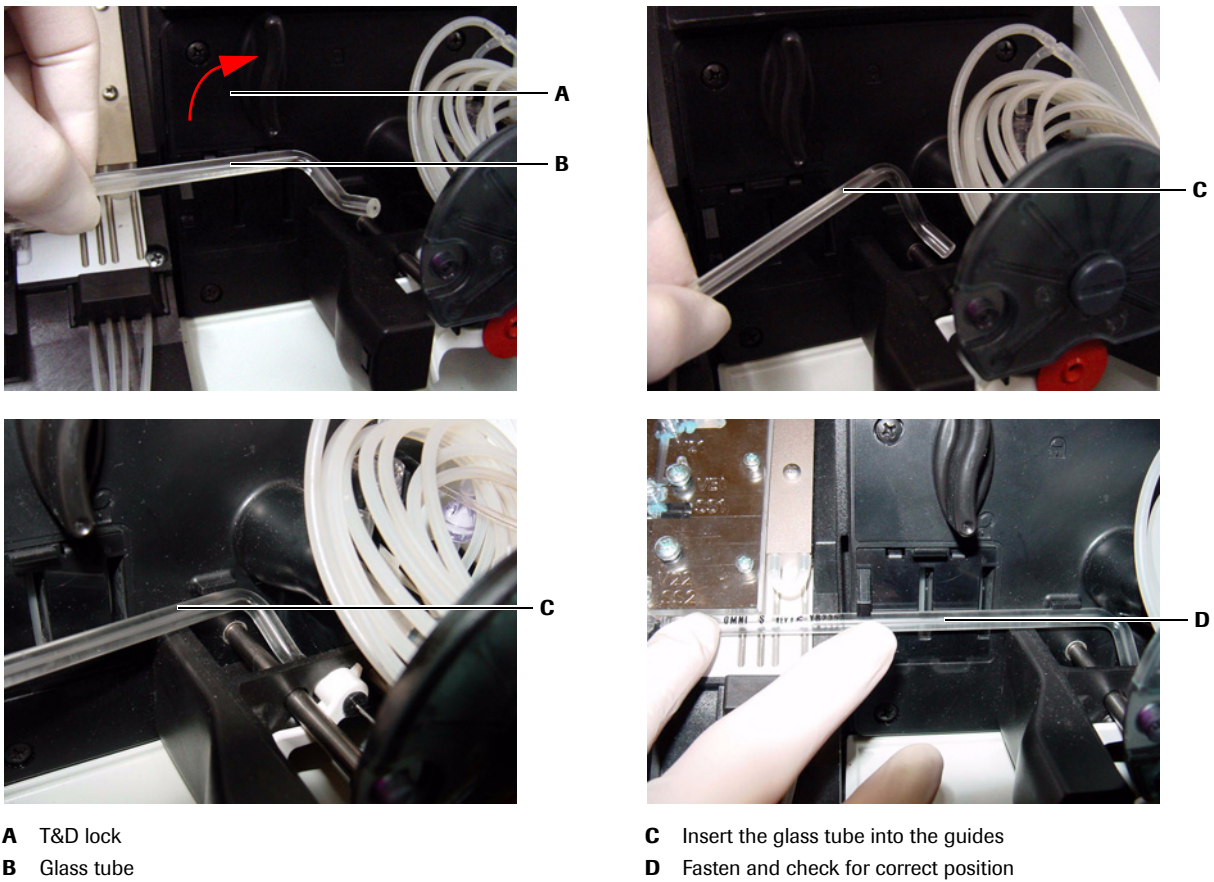

Figure A-21 Glass tube
- 👁 see Figure A-21 on page A-36, A
- 👁 see Figure A-21 on page A-36, C
- 👁 see Figure A-21 on page A-36, D